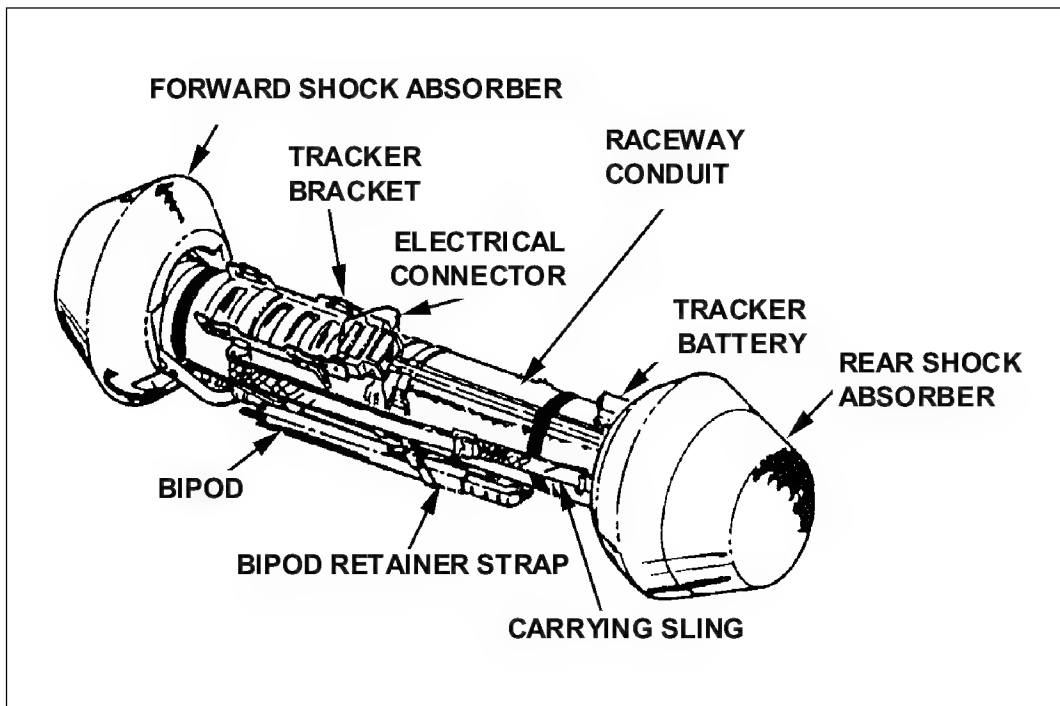

Figure 1-9. External components of the M222 HEAT (tactical) round.
c. **Ammunition.** The Dragon's ammunition is an expendable component consisting of both the missile and the launcher itself (Figure 1-9, page 1-6). The missile is installed in the launcher at the factory and is shipped ready to fire. The launcher serves as a storage and carrying case for the missile before it is launched. The Dragon has two types of missiles: the M223 practice round, which has an inert warhead, and the M222 HEAT round. The launcher consists of—